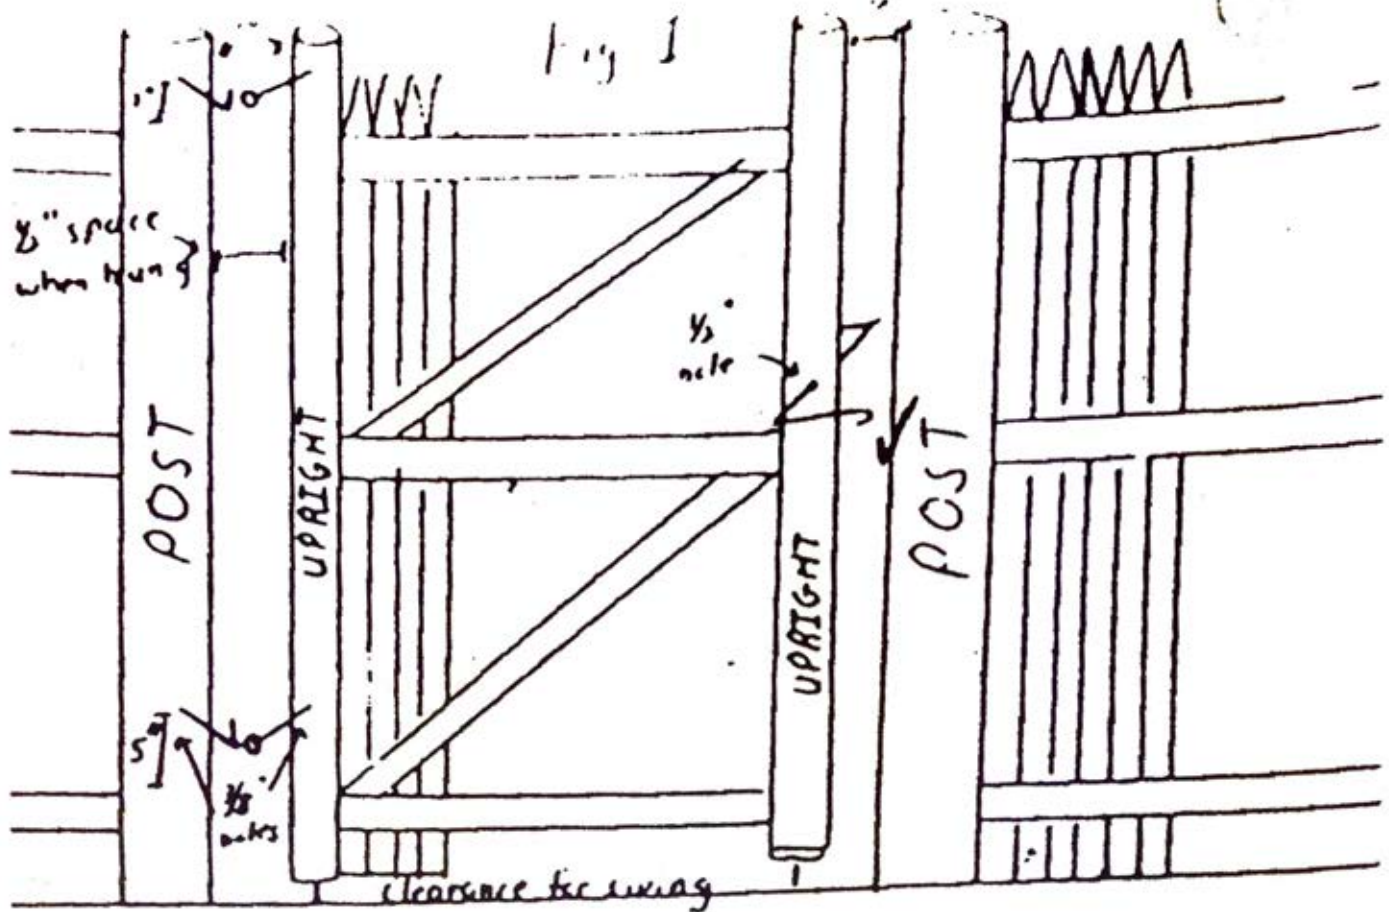

FIG. 2
Should be drilled at a 45 degree as in (Fig. 2).
6. Using a ⅜" bit, drill pilot holes for female hinges. Holes should be drilled at 45 degrees as in (Fig. 2).
10. Mark and drill a ½" hole through the center of the upright, and feed S-latch through hole and attach handle (Fig. 2).